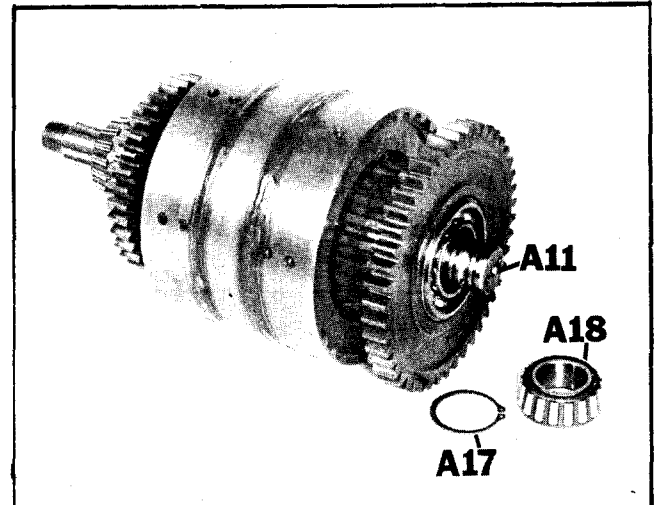

Figure 17
2. Remove snap ring (A-17) (Figure 17).